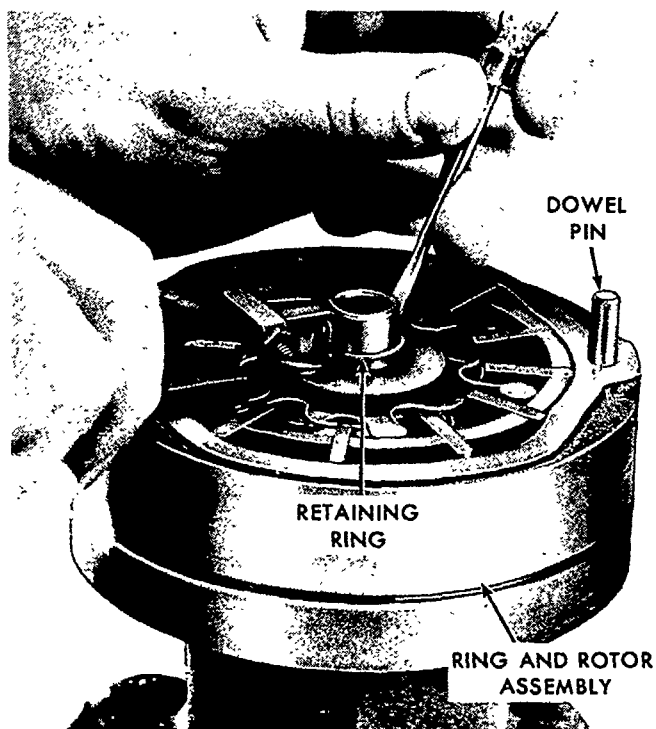

Figure 92
8. With a pair of snap ring pliers, remove the rotor retaining ring, Figure 92. It may be necessary to pry the retaining ring away from the drive shaft with a small screwdriver as shown.
8. Place the cam ring and rotor assembly, with the chamfer on the cam ring exterior facing away from the valve body housing onto the splined end of the drive shaft. See Figure 92. Slide the assembly downward to the face of the housing.
9. Install the two dowel pins, Figure 92, making sure the pins are engaged in the holes in the valve body housing.
10. Using snap ring pliers, install a new rotor retaining ring, Figure 92, being sure the ring is secured in the groove.